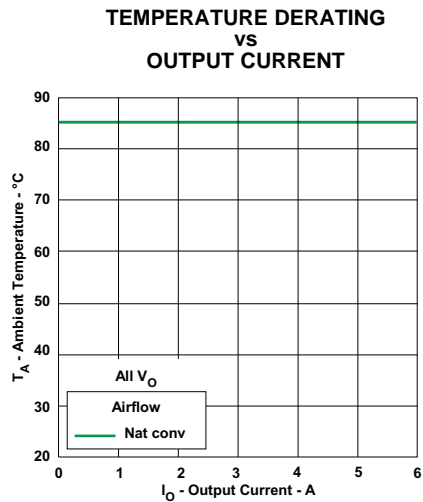

Figure 10.
- (2) The temperature derating curves represent the conditions at which internal components are at or below the manufacturer's maximum operating temperatures. Derating limits apply to modules soldered directly to a 100 mm × 100 mm double-sided PCB with 1 oz. copper. Applies to Figure 10.